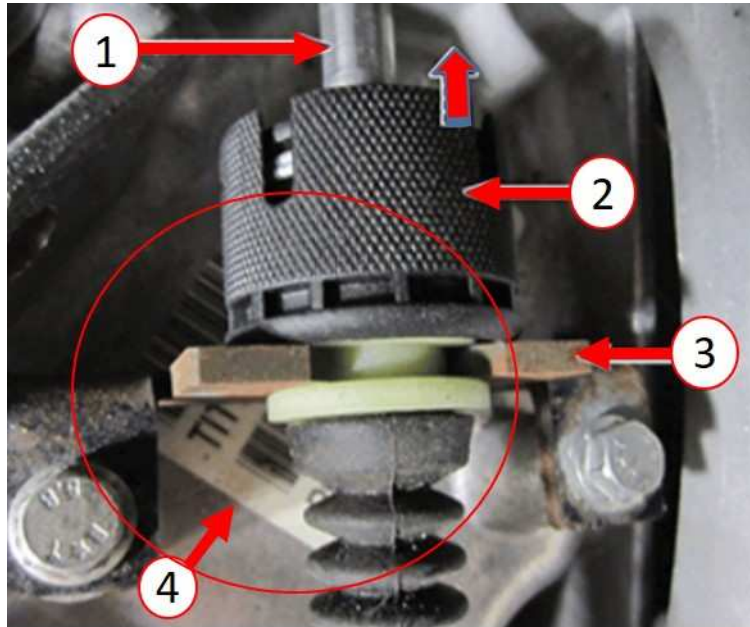

Fig. 1
1. Inspect the transmission tag under the shifter cable location for the plant code and build date (Fig. 1) .